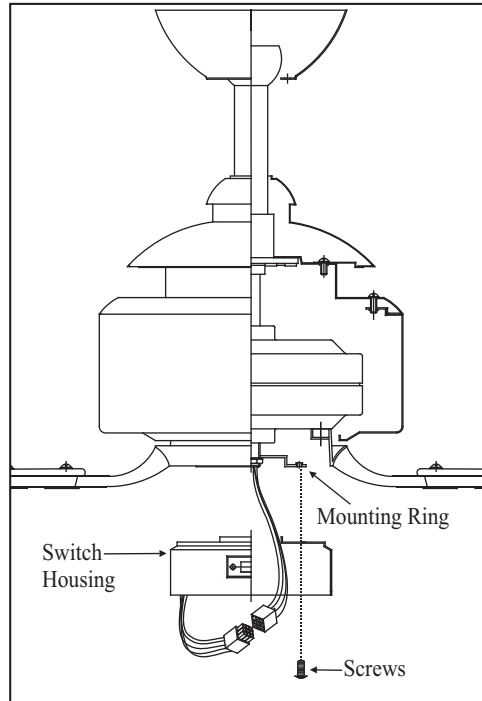

Figure 20
3. Place the key holes on the switch housing over the 2 screws previously loosened from the mounting ring, turn switch housing until it locks in place at the narrow section of the key holes. Secure by tightening the 2 screws previously loosened and the one previously removed. (Fig. 20)